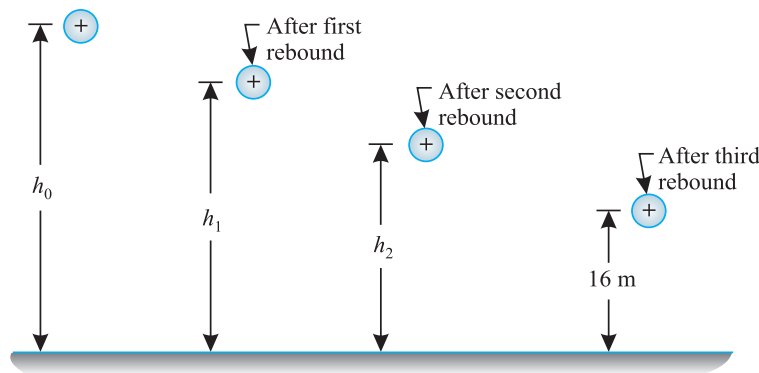

Fig. 27.5.
**Solution.** The system of rebounding is shown in Fig. 27.5